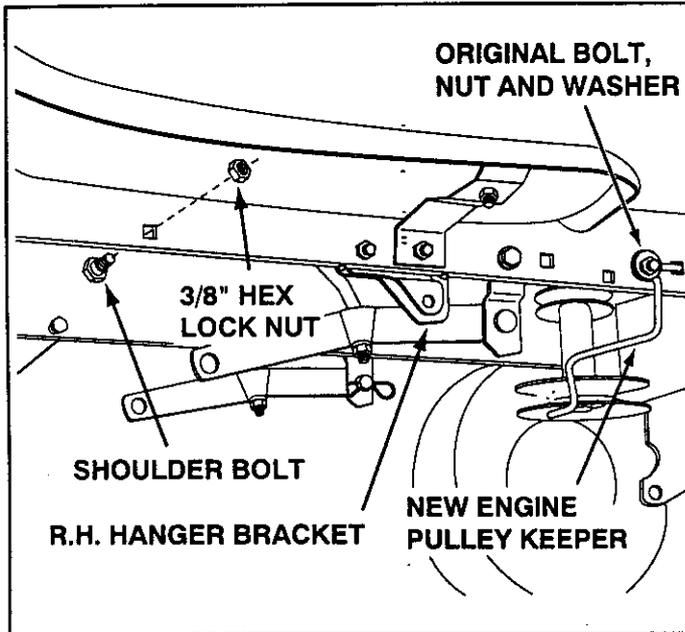

FIGURE 7 RIGHT SIDE VIEW
- Assemble a shoulder bolt and 3/8" hex lock nut to the R.H. side of the tractor frame, using the first empty hole to the rear of the R.H. hanger bracket. See figure 7
- Replace the engine pulley keeper on your tractor with the new pulley keeper supplied with the snow blower. Attach the keeper to the frame using the original bolt, washer and nut. See figure 7.